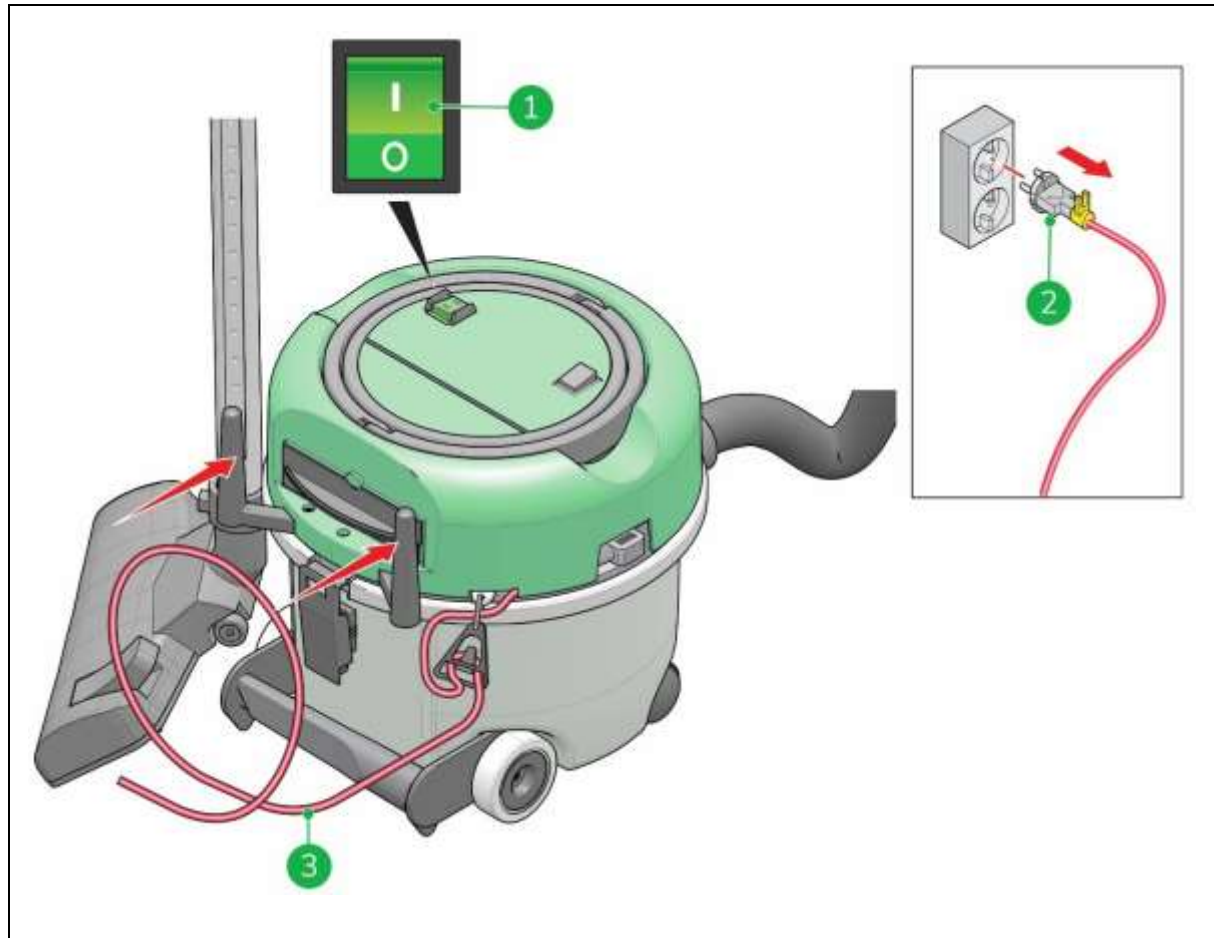

Figure 21
1. Press the ON /OFF switch (fig 21, pos 1) on the head of the Dry Plus to turn it off.
2. Remove the main power cable from the wall socket. (fig 21, pos 2)
3. Wind the main power cable around the two cable storage hooks (fig 21, pos 3) on the side of the can, **starting from the machine side.**